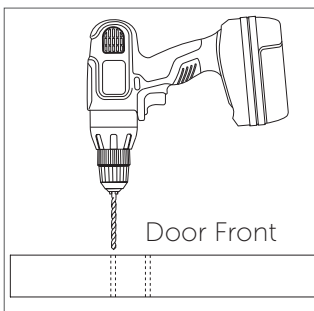

Figure 3
6. Drill two pilot holes all the way through the door for each hanger using a drill with an 1/8" drill bit (Figure 3).
4. Take the track down, drill out the marked holes using a drill with 1/4" drill bit (Figure 3).